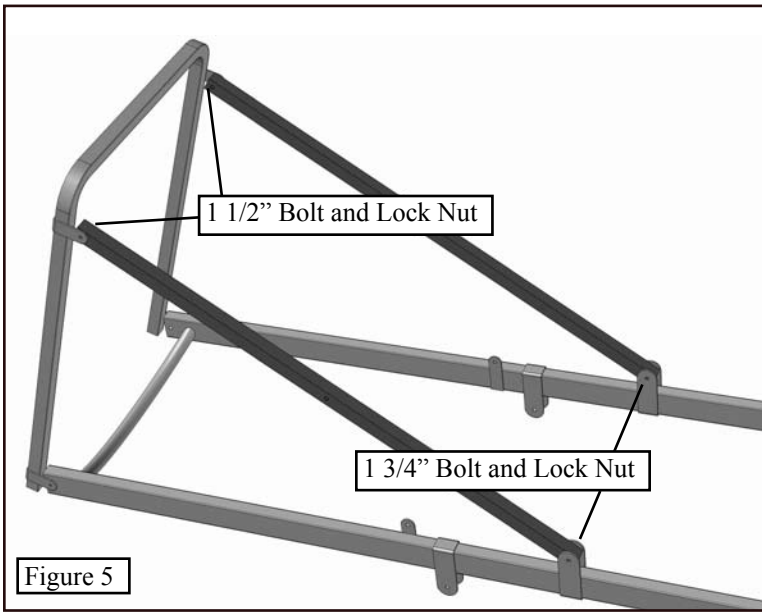

Figure 5
Step 4. Attach the Support Tubes to the remaining Arm Rest bracket using two 1 1/2" bolts with lock nuts. Run the tubes to the pre-punched hole in the Top Support Assembly. Secure at the platform with two 1 3/4" bolts and lock nuts as shown in **Figure 5**.